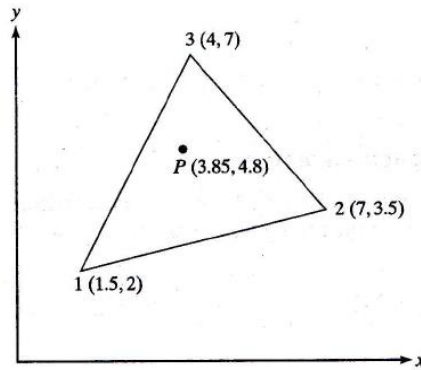

Figure 9
- Q.4 (a)** For triangular element shown in Figure 9; (1) Evaluate shape functions N_1 , N_2 and N_3 at interior point P , (2) Evaluate Jacobian of transformation J **07**